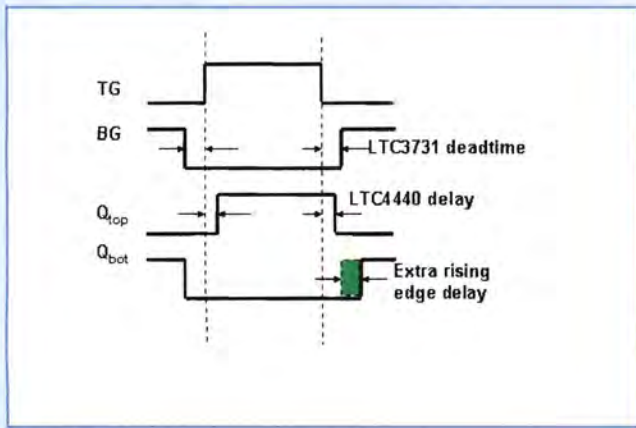

Figure 7: Extra rising edge delay is needed for the bottom gate to account for the delay induced by the external LTC4440 FET driver at the top gate
The gate timing of the top FET and bottom FET in a synchronous buck converter is critical. As shown in **Figure 7**, the external driver LTC4440 introduces a propagation delay from the LTC3731's top driver output (TG) to the top FET gate signal Q_{top} .